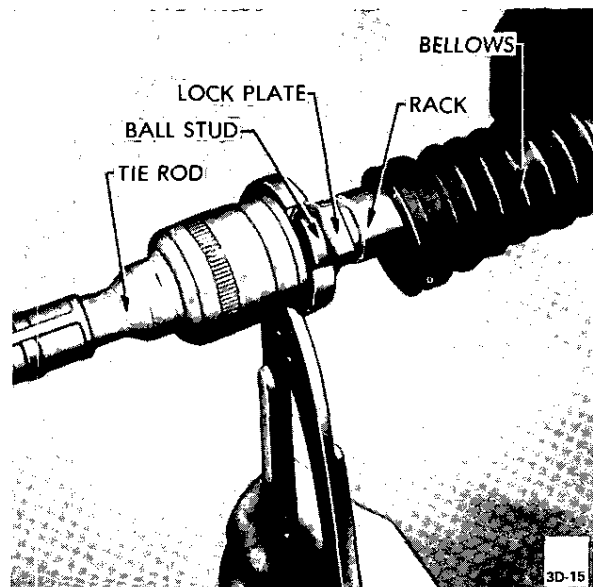

Figure 3D-15 Bending Lock Plate Over Ball Stud
8. Bend **round** edges of lock plate over flat on ball stud to lock ball stud in position. See Figure 3D-15.